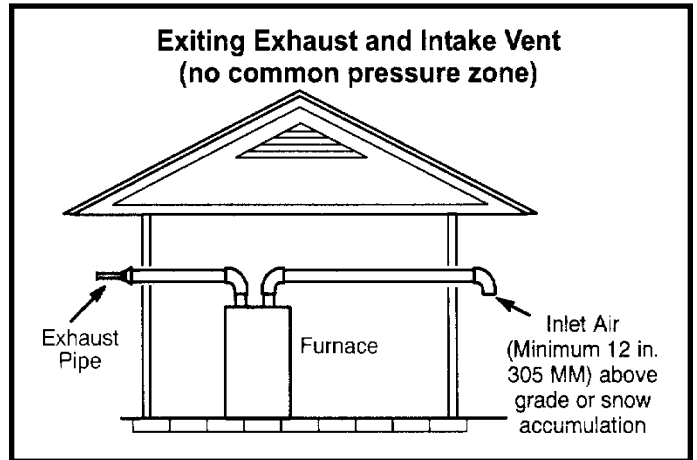

Figure 34
1. Intake and exhaust terminations are not required to be in the same pressure zone. You may exit the intake on one side of the structure and the exhaust on another side (Figure 34). You may exit the exhaust out the roof and the intake out the side of the structure (Figure 35).